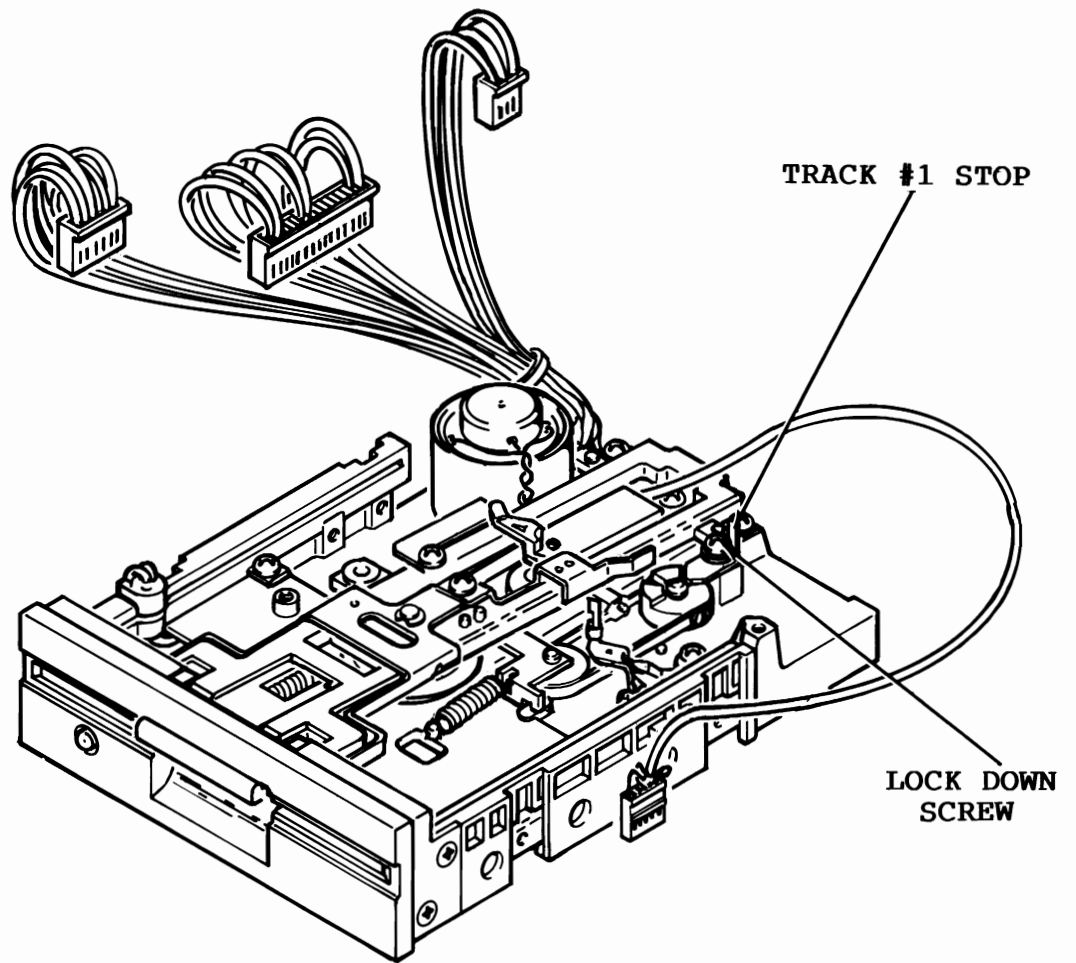

Figure 5-3. Track #1 Stop Adjustment.
6. Reconnect J1 to P1, J2 to P2, J5 to P5, J6 to P6 and J7 to P7 in such a manner that access is still allowed to the Track #1 Stop adjustment. (See Figure 5-3)
8. After the head settles and the Display T&S program begins displaying Track information, adjust the Track #1 Stop adjustment in the following manner (See Figure 5-3):